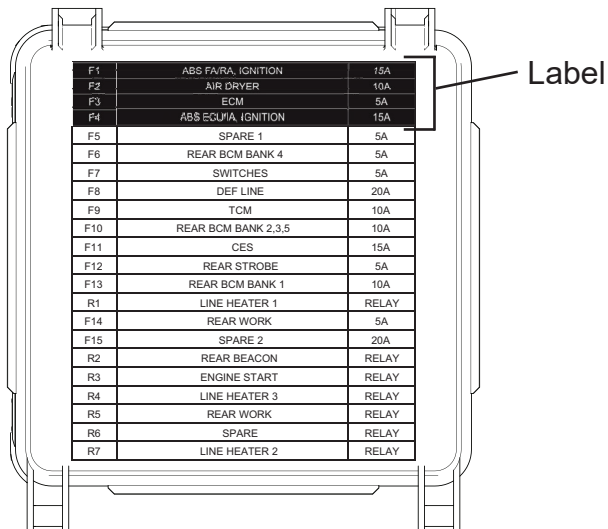

Figure 3
7. Install the fuse identification label supplied on the engine fuse panel cover, see Figure 3.